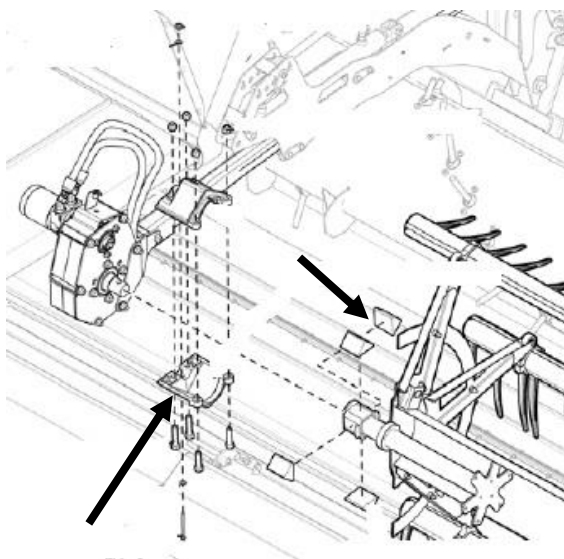

Figure 260
13. Install new flex couplers in the reel if the old couplers are damaged. Place the flex couplers on the reel shaft and wrap tape to hold them in place. Install the coupler covers in place and secure the mounting bolts. Figure 260